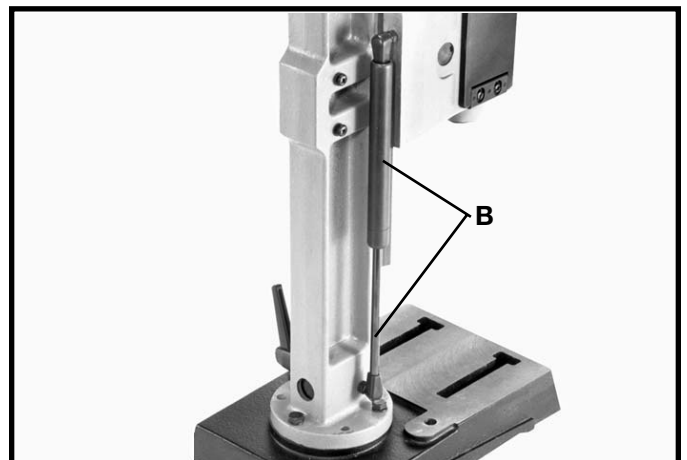

Fig. 6
2. Fig. 6, illustrates the hydraulic cylinder (B) assembled to the machine. The hydraulic cylinder (B) keeps the head in the up position.